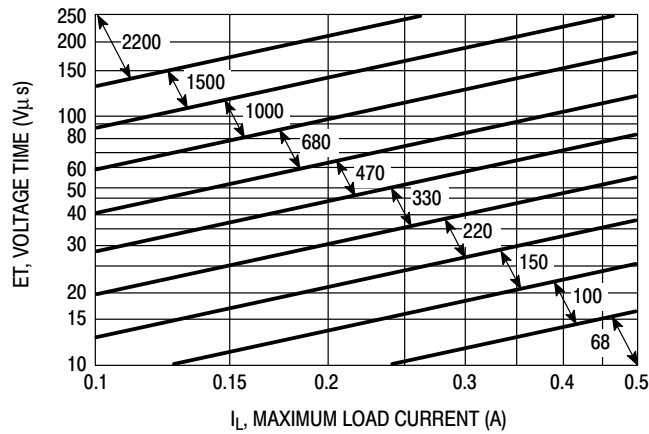

Figure 23. LM2574-ADJ
4. Inductor Selection (L₁) A. Use the following formula to calculate the inductor Volt x microsecond [V x μs] constant: $E \times T = (V_{in} - V_{out}) \frac{V_{out}}{V_{in}} \times \frac{10^6}{F[\text{Hz}]} [V \times \mu s]$ B. Match the calculated E x T value with the corresponding number on the vertical axis of the Inductor Value Selection Guide shown in Figure 23. This E x T constant is a measure of the energy handling capability of an inductor and is dependent upon the type of core, the core area, the number of turns, and the duty cycle. C. Next step is to identify the inductance region intersected by the E x T value and the maximum load current value on the horizontal axis shown in Figure 27. D. From the inductor code, identify the inductor value. Then select an appropriate inductor from Table 2. The inductor chosen must be rated for a switching frequency of 52 kHz and for a current rating of 1.15 x I_{Load}. The inductor current rating can also be determined by calculating the inductor peak current: $I_{p(\text{max})} = I_{\text{Load}(\text{max})} + \frac{(V_{in} - V_{out})t_{on}}{2L}$ where t_{on} is the “on” time of the power switch and $t_{on} = \frac{V_{out}}{V_{in}} \times \frac{1.0}{f_{osc}}$ For additional information about the inductor, see the inductor section in the “External Components” section of this data sheet.	4. Inductor Selection (L₁) A. Calculate E x T [V x μs] constant : $E \times T = (40 - 24) \times \frac{24}{40} \times \frac{1000}{52} = 105 [V \times \mu s]$ B. E x T = 185 [V x μs] C. I_{Load(max)} = 0.4 A Inductance Region = 1000 D. Proper inductor value = 1000 μH Choose the inductor from Table 2.